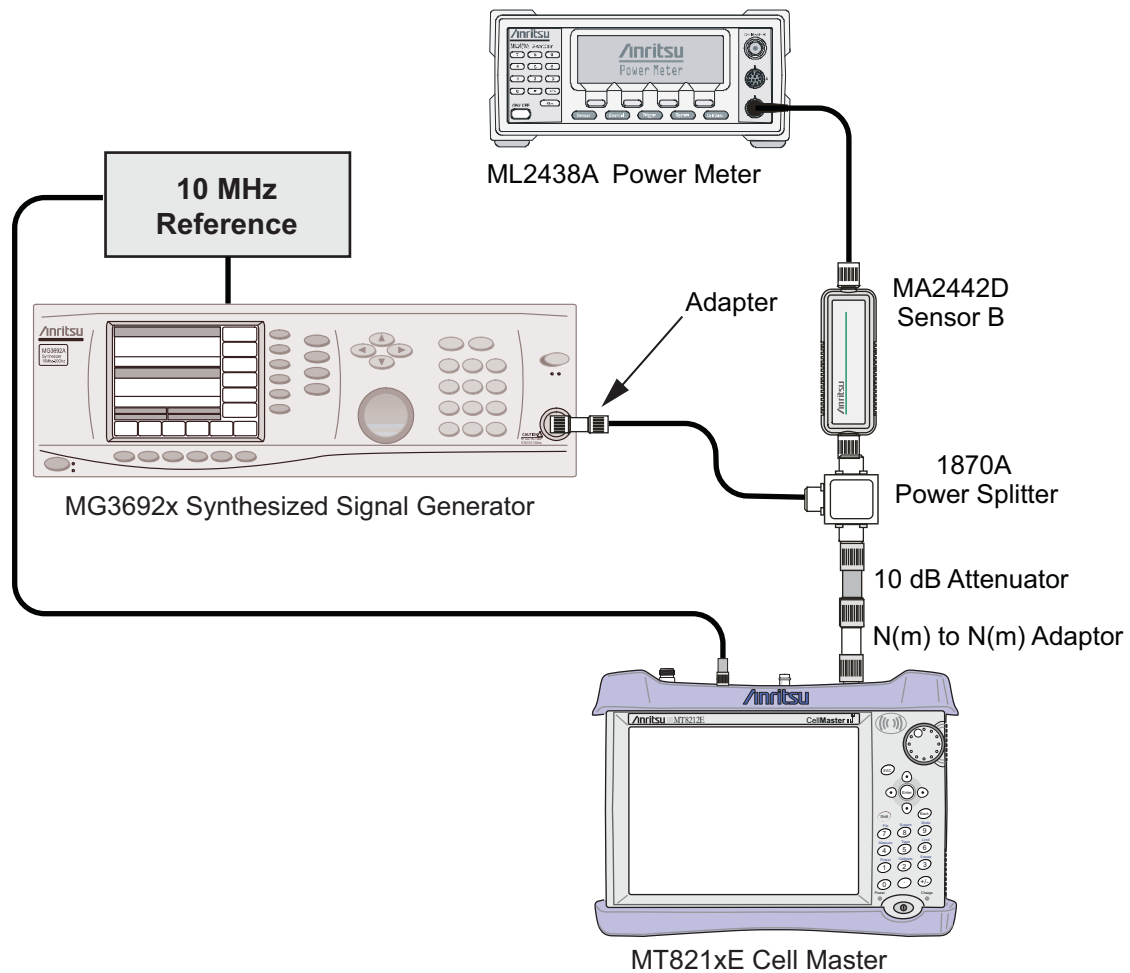

Figure 4-2. Power Meter Measurement Accuracy
1. Connect the equipment as shown in Figure 4-2.